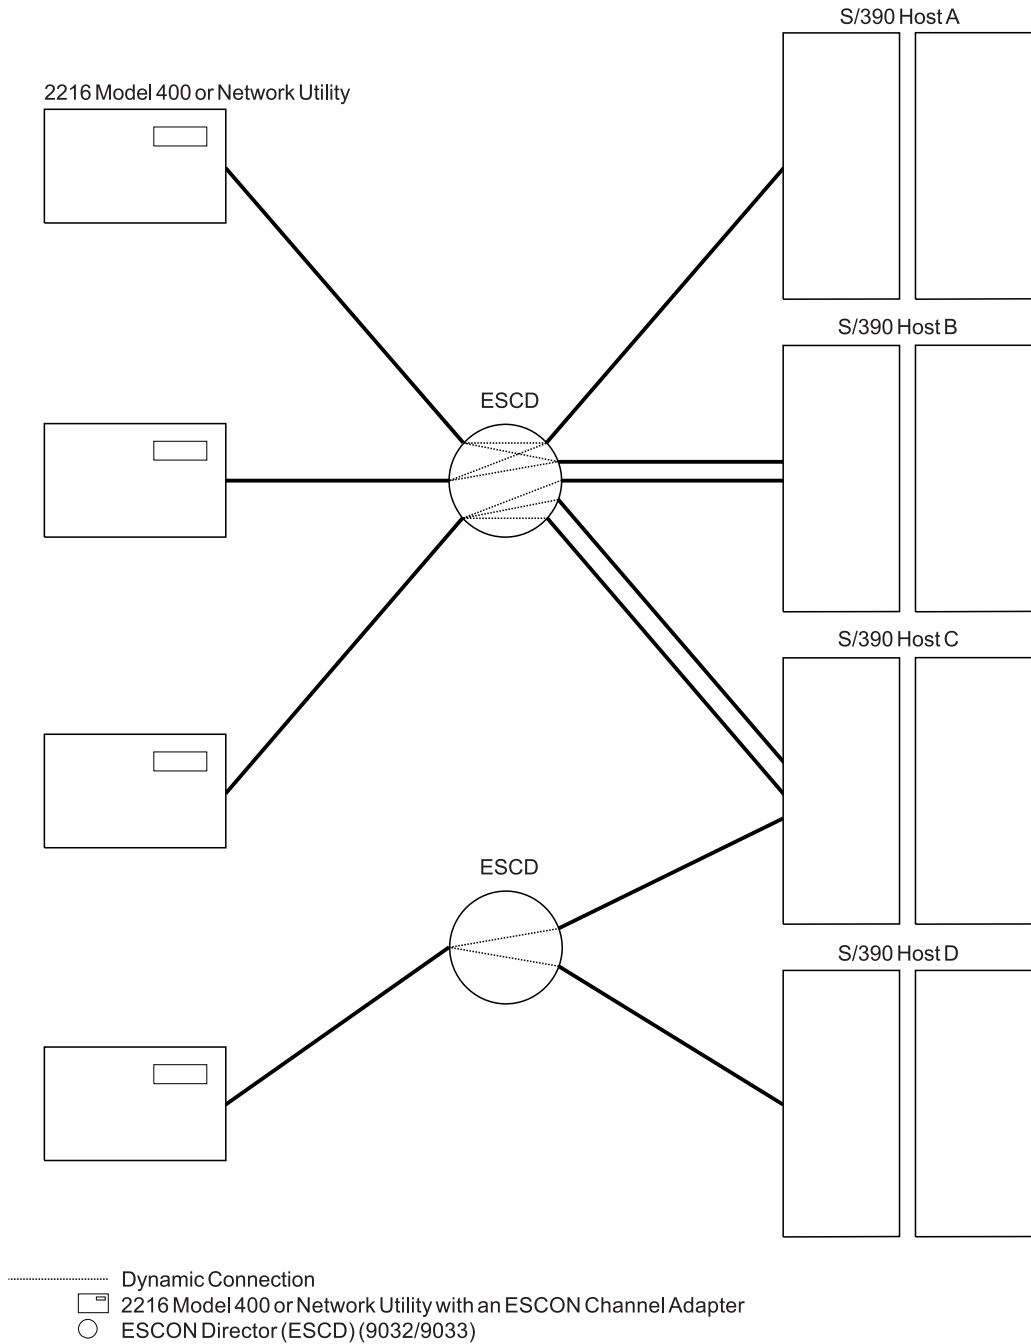

Figure 5-5. Multiple System ESCON Connections Example
See Figure 5-5 on page 5-12.
**Multiple Systems Attachment with ESCDs:** Figure 5-5 shows the connection of multiple S/390 hosts to single and multiple 2216 Model 400 or Network Utility units, with possible backup paths. A fault-tolerant solution can be designed using backup channels, multiple ESCDs, or multiple 2216 Model 400 or Network Utility units.